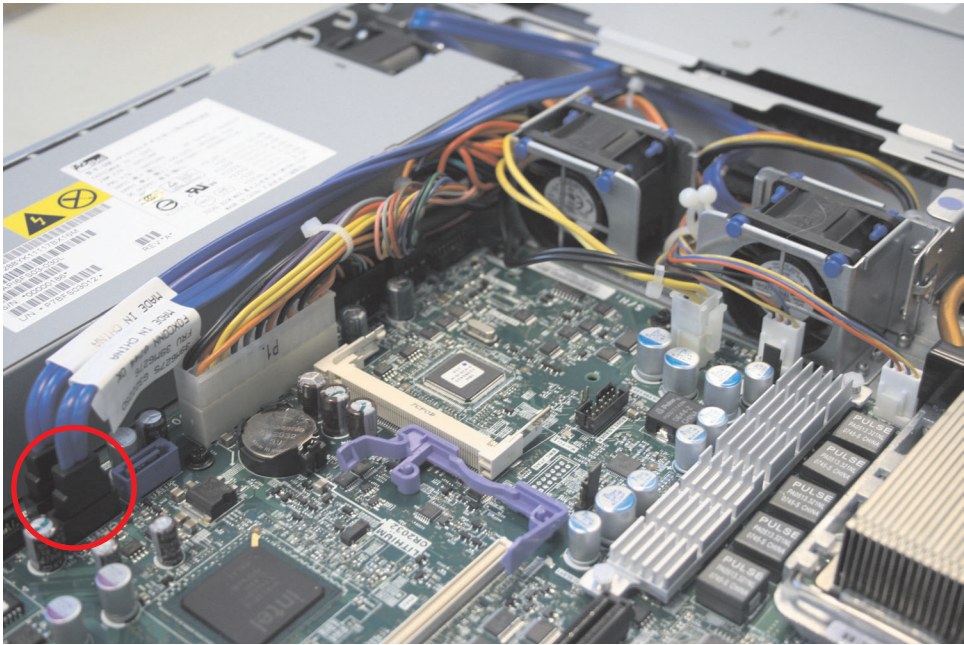

Figure 274. SAN Volume Controller 2145-8A4 SATA cable connectors
8. Disconnect and remove both SATA disk cables from sockets SATA 0 and SATA from the system board, as shown in Figure 274 on page 292.